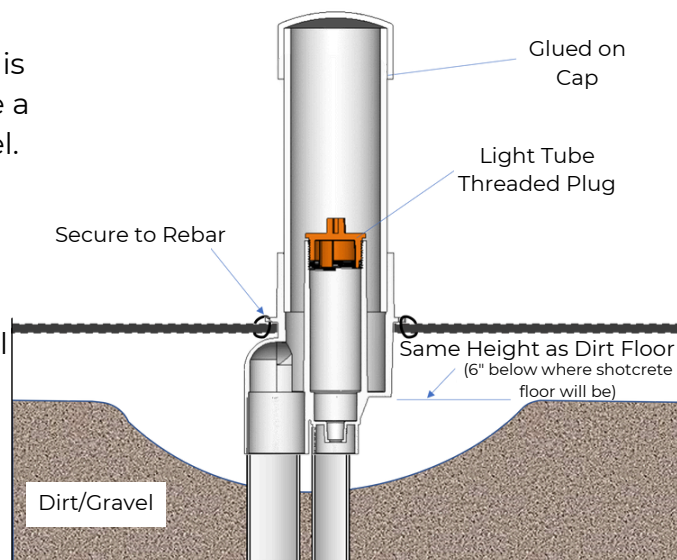

FIGURE 3
- 1 Locate position on pool or spa floor where bubbler is to be installed. The top of the bubbler lens must be a minimum of six (6) inches below normal water level.
- 2 For the water supply, dig a trench for 1.5" Schedule 40 PVC plumbing to the location of the bubbler housing. Plumb into the bottom of the bubbler using sweep 90° elbows and connect into a vertical riser. See Figure 3.
- 3 For the electrical conduit, dig a trench for 1.0" Schedule 40 PVC plumbing to the location of the bubbler housing. Plumb into the bottom of the bubbler using sweep 90° elbows and connect into a vertical riser. Secure the bubbler housing-fixture to the rebar with wire ties. See Figure 3.
- 5 Glue a 3.0" Schedule 40 PVC riser pipe into the bubbler housing body. The height of the riser should be at least 6" above the planned pebble height. See Figure 3.
- 6 Glue a 3.0" Schedule 40 PVC cap onto the riser. See Figure 3.